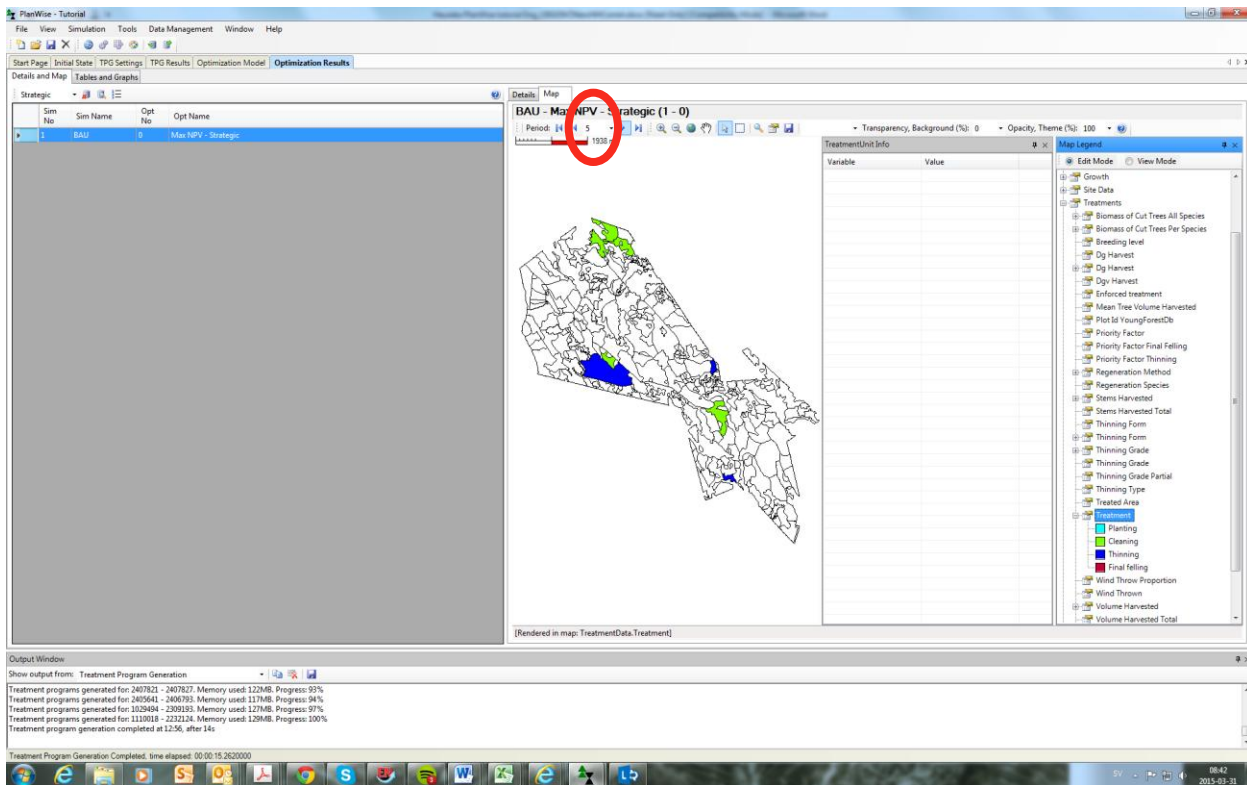

Figure 14
- Right-click Treatment and select Show In Map. For period 0 (zero) no logging operations should appear in the map since this is the initial state. Treatments simulated generally occur only in year 2.5, 7.5 etc. – in mid-point of following periods. However, if we initially had stands consisting of seed trees/shelterwood, the treatment RemovalOfSeedTrees/Shelterwood could have taken place in period 0. Move to period 1 (marked in the figure below), and the proposed treatments show up like in figure 14.